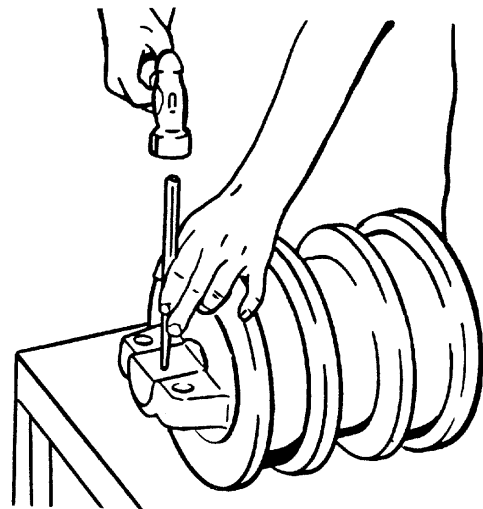

Fig. 14.22. Removing Spring Pin
1. Remove drain plug (12) and drain roller. Drive out spring pin (11) securing the bracket (1) on each side of the shaft (10) as shown in Fig. 14.22.
2. Remove the track roller shaft brackets (1) with the O-rings (2) and the stators of the seal kits (3). Discard the O-rings. Remove the seal kits stators from the brackets and discard the rubber rings.
3. Remove the bolts securing the bushing retainers (4) to each side of the roller housing and remove the retainers with O-rings (5) and the rotors of the seal kits (3). Discard the O-ring (5). Remove the seal kits from the retainers and discard rubber rings.